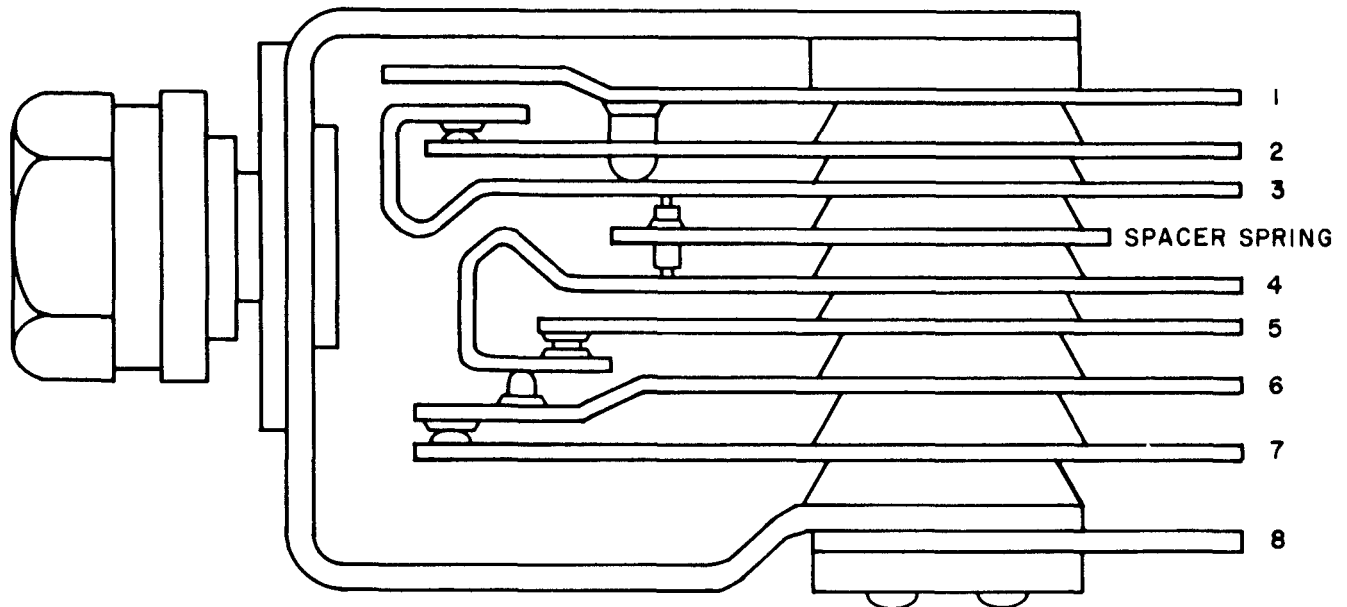

Figure 2-12. Jack J501, Contact Arrangement.
a. *Jack J501 (fig. 2-12).*
(1) Insert plug P501 into jack J501.
(2) Adjust contact spring 4 so that from 1,000 to 1,600 grams are necessary to move the contact away from the plug.